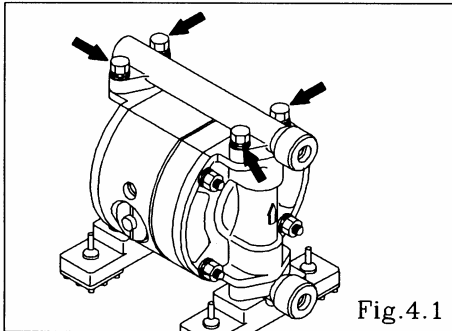

Fig.4.1
See [9.Exploded View] on after p.11. (Fig. 4.1, 4.2, 4.3 and 4.4 show the NDP-5 FAT.)
- Remove the 4 retainer bolts from the out manifold, and remove the out manifold. [Fig.4.1]